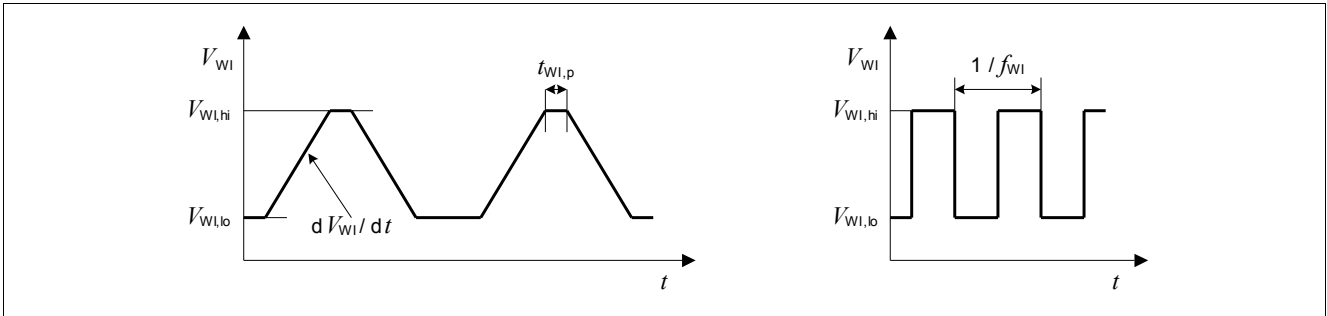

Figure 9 Test Pulses Watchdog Input WI
The watchdog is triggered by an positive edge at the watchdog input "WI". The signal is filtered by a bandpass filter and therefore its amplitude and slope has to comply with the specification Item 9.2.11 to Item 9.2.15. For details on the test pulse applied, see Figure 9.
2) For details on the test pulse applied, see Figure 9.